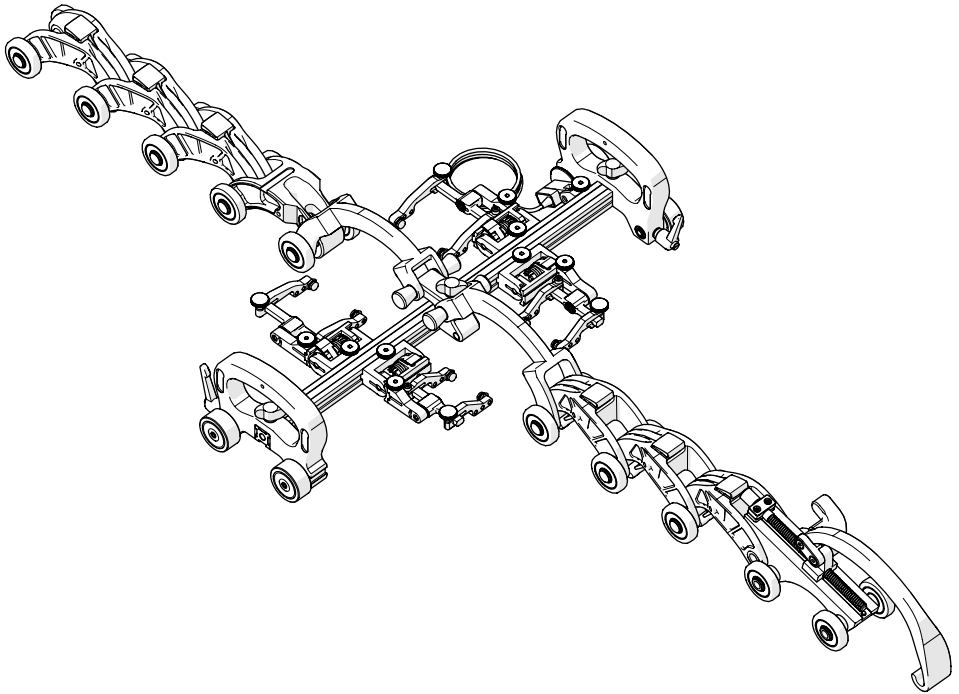

Fig. 106 - Assemble configuration
3. On a flat surface, connect the appropriate number of links (see *Connecting QuickLinks on page 22*) as indicated on the **ROTIX** setup chart. Arrange the link setup so the buckle and catch link will be 180° opposite the scanner body (Fig. 106).